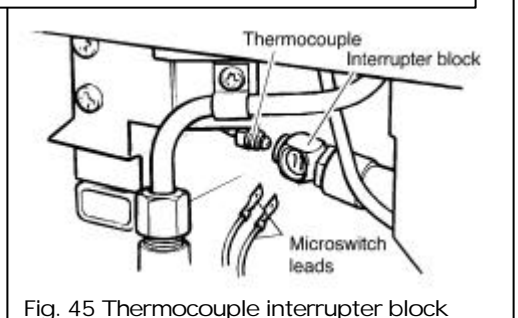

Fig. 45 Thermocouple interrupter block
13.2.3 Loosen the thermocouple nut to free the microswitch leads and pull the leads clear of the thermocouple interrupter block (see figure 45).